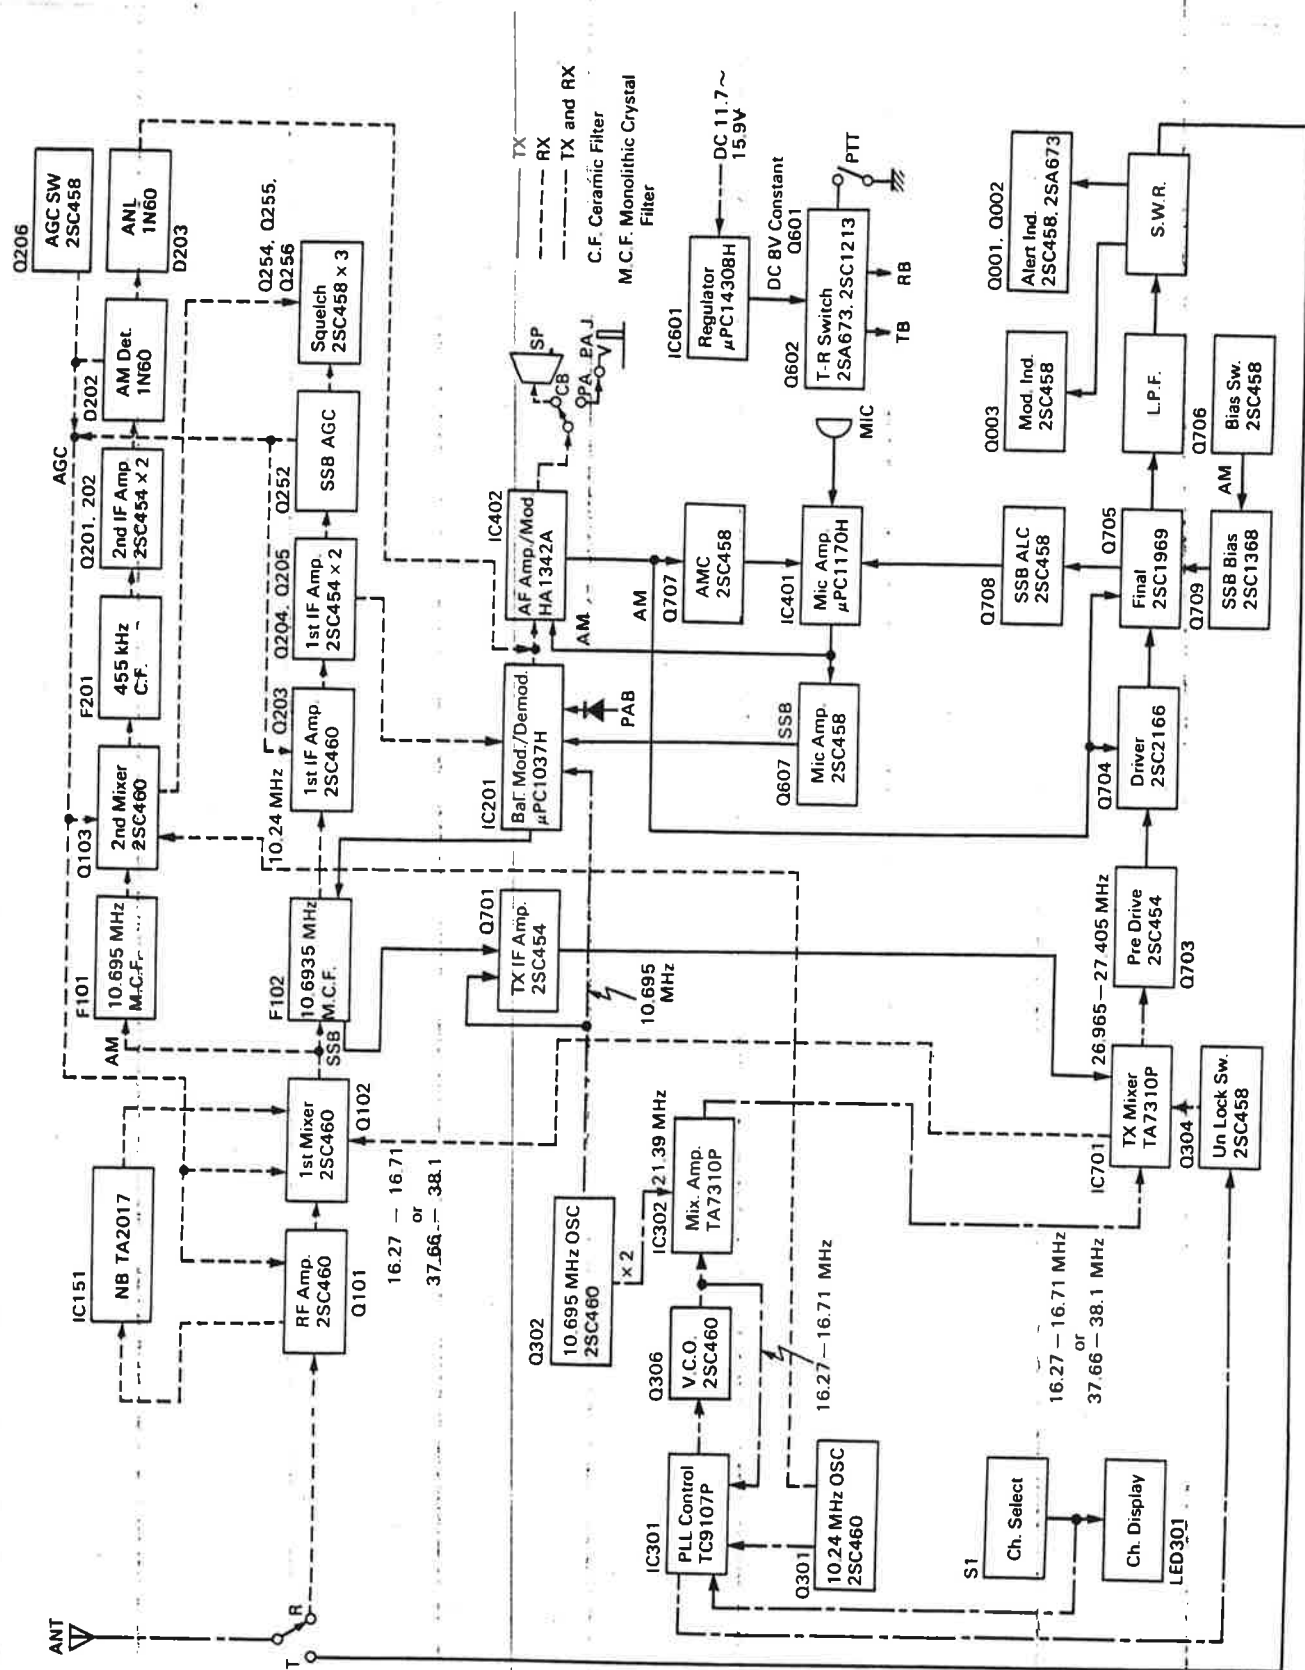

Figure 14
4. Signal Flow of PLL (Also refer to figure 14)